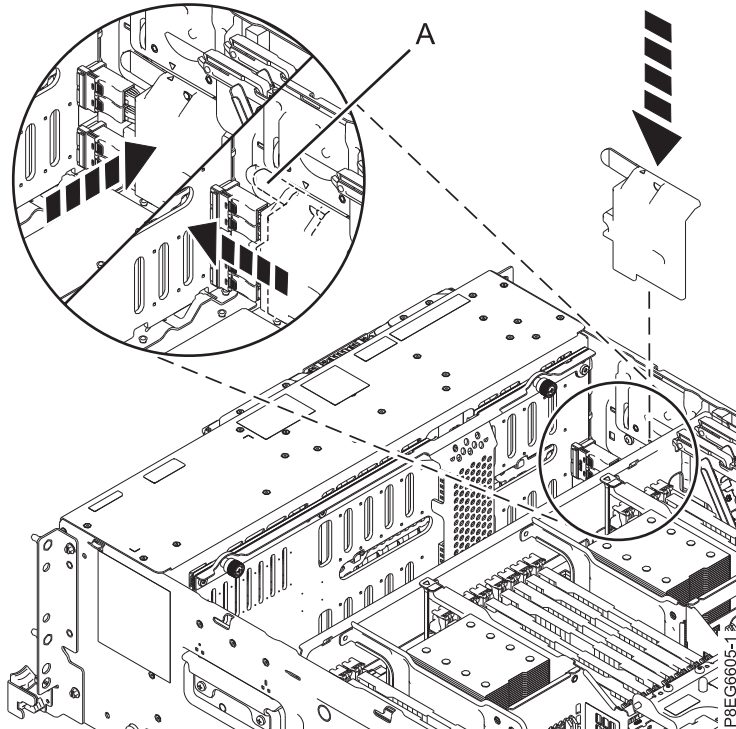

Figure 9. Replacing the SAS cable cover
8. Replace the SAS cable cover. Arrange the cables against the side of the chassis before you replace the cable cover. Place the cover slots onto the pins on the side of the chassis. The triangle symbol on the SAS cable cover lines up with the triangle symbol on the side of the chassis when the cover slots and pins are aligned correctly. Push the cover forward toward the front of the system to latch it. See Figure 9 on page 10.